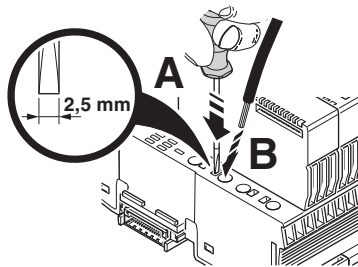

Figure 11-18 Connecting a stranded cable with tools
- Open the spring by pressing the actuation slot with the screwdriver (Figure 11-18, A). Use, for example, a bladed screwdriver with a blade width of 2.5 mm. Phoenix Contact recommends the SZS 0,4x2,5 screwdriver (see Section "Ordering data" on page 138).
- Insert the cable in the terminal point (B).